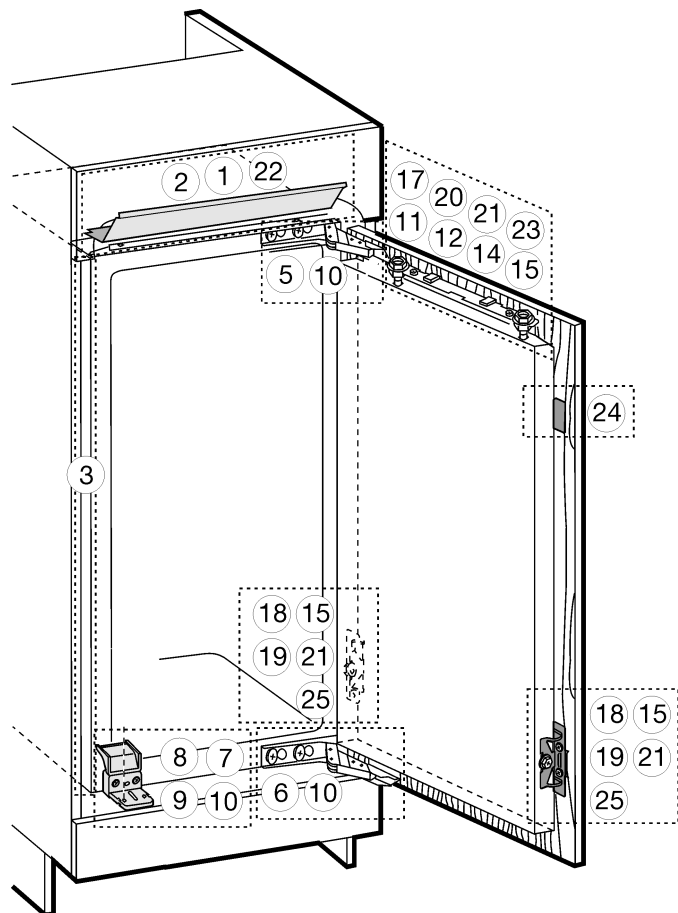
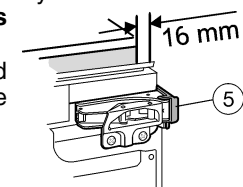

Fig. 10
Fig. 13
- ▶ Clip spacer Fig. 13 (5) and spacer Fig. 10 (6) onto the hinges.